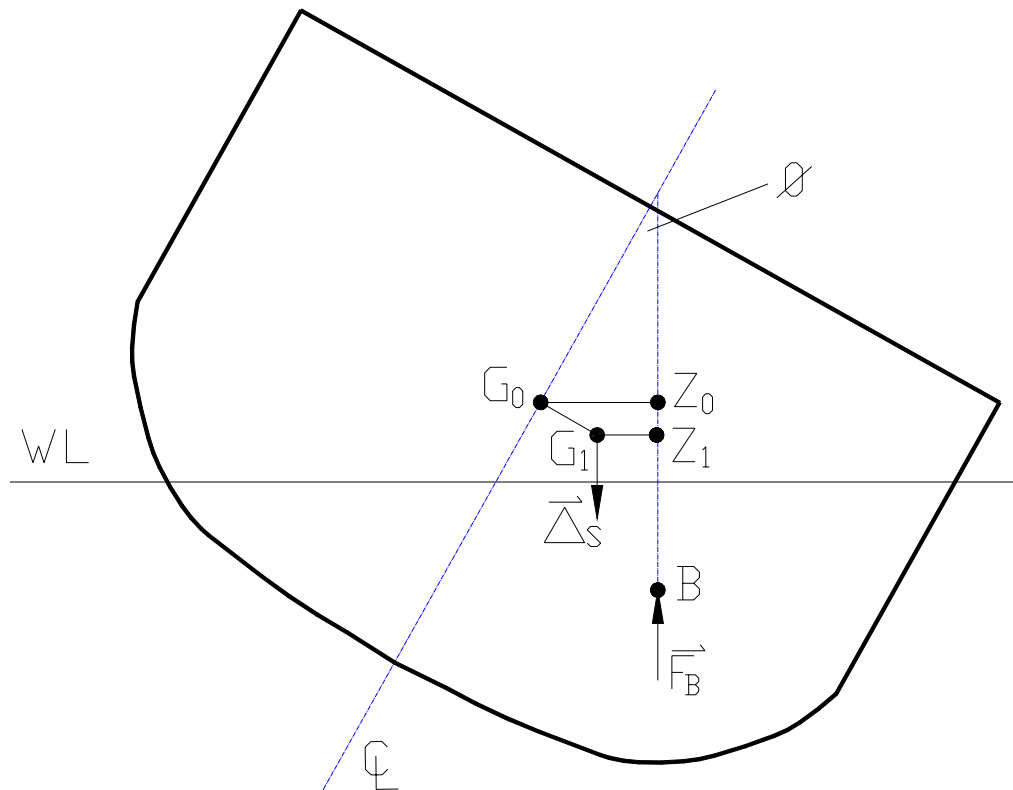

Figure 3 – The Heeling Ship with a Transverse Shift in the Center of Gravity
6. In this lab, the center of gravity of the ship will be shifted transversely. The effect this has upon the curve of intact statical stability will be measured. It should be possible to predict this effect by an analysis of the heeling ship shown in Figure 3.
7. In the box below, use Figure 3 to derive an equation for the new righting arm (G_1Z_1) after a transverse shift in the center of gravity from G_0 to G_1 . Your equation should include the old righting arm (G_0Z_0) and the angle of heel (ϕ).